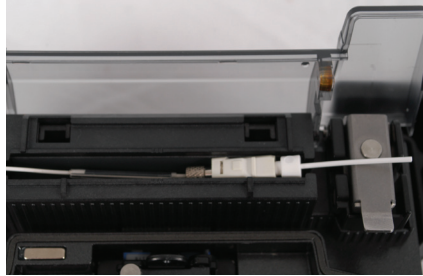

Figure 9: Connector in oven
**9. Transfer the splice to the heat oven (Figure 9).**